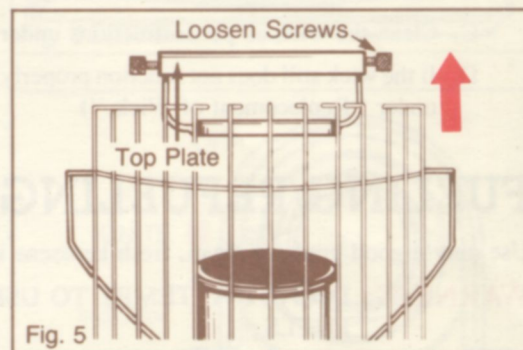

Fig. 5
3. Remove top plate assembly...Loosen screws on either side, turn top plate counterclockwise, and lift it up. It is not necessary to remove the screws (See Fig. 5).